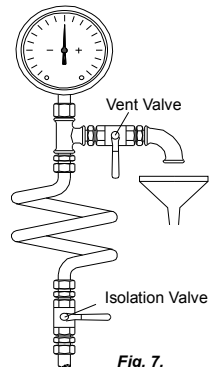

Fig. 7.
• Pressure and vacuum gauges must be properly anchored and connected at the measuring points located on the pump flanges by means of or on the pipes close to the flanges approximately 8 mm diameter tubing with pig tail configuration to lessen pressure fluctuation. For safety purposes isolating and vent valves should be fitted before the gages (Fig. 7).